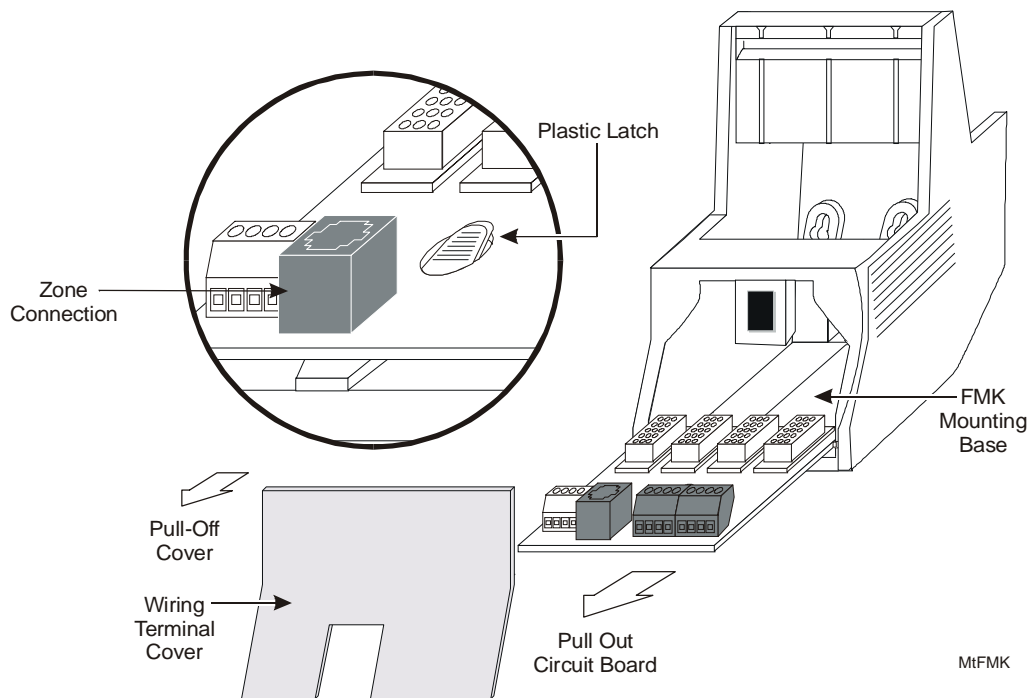

Figure 13: Mounting the FMK
The FMK102 cannot be mounted on a DIN rail. Therefore, when you replace a DIN rail mounted FMK100, you must remove the DIN rail or install 1/4 inch mounting spacers so the FMK102 clears the DIN rail. Refer to Figure 13 and follow the steps below when mounting an FMK102.
1. Remove the wiring terminal cover, pulling it off the unit (Figure 13).